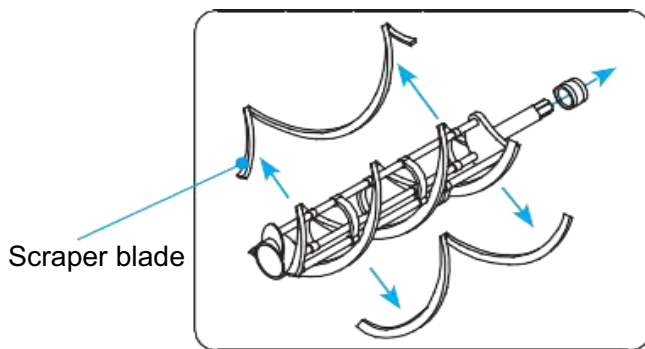
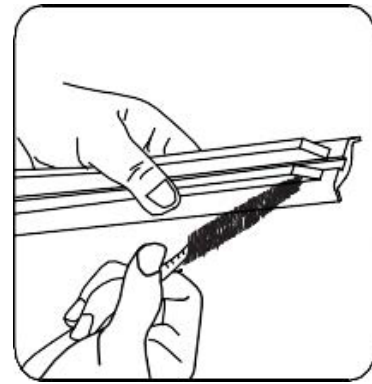

Figure 4-37
Figure 4-38
3. Disassemble the beater assembly: Remove scraper blades (Figure 4-37) and wash all the parts using an approved cleaning detergent and brushes in the kit provided (Figure 4-38). Wipe all parts with a soft cloth and lay them out to dry overnight.